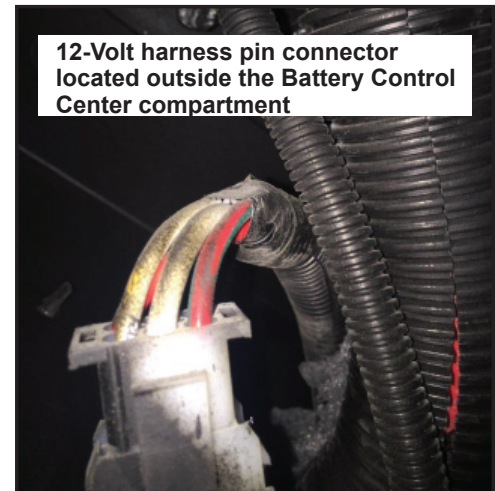

Figure B-3
- Unbundle the harness and auto loom to inspect for the white, 12-Volt molded pin connector(s) terminating on the outside of the compartment. See Figure B-3.